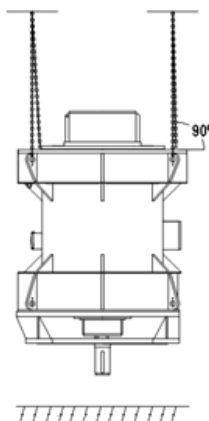

Figure 3.1: Handling motors
- The handling of vertical motors must be performed as shown in Figure 3.1.